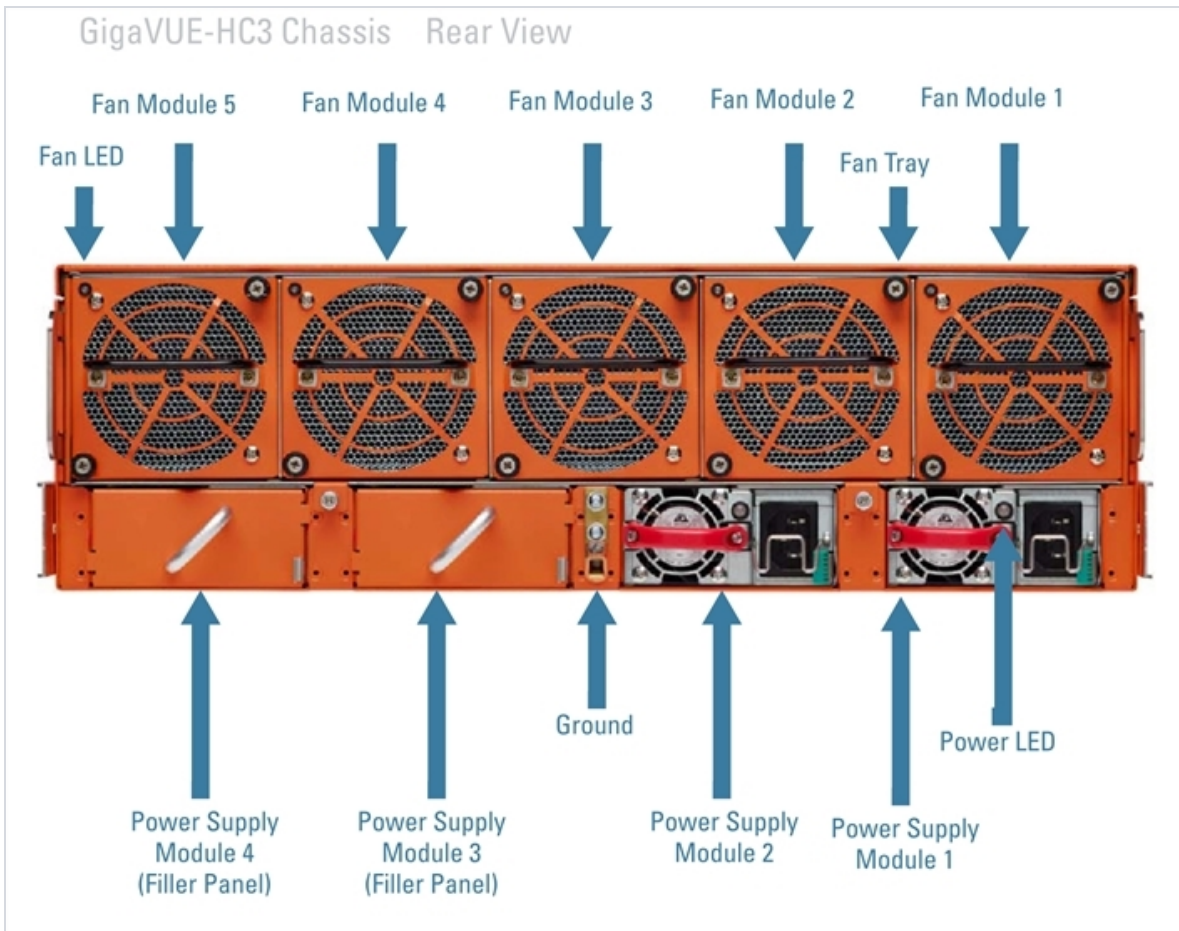

Figure 3: Rear View of the GigaVUE-HC3 Chassis
- Figure 3: Rear View of the GigaVUE-HC3 Chassis on page 11
The fully-assembled GigaVUE-HC3 chassis consists of a 3RU, rack-mountable, 19in-wide chassis with management, network, and tool ports at the front and power connections, fans, and access to the control card at the rear. GigaSMART is available with SMT-HC3-C05 installed in the chassis. on page 8 summarizes the bays on the front, on page 9 summarizes the front view including modules and extension board, and Figure 3: Rear View of the GigaVUE-HC3 Chassis on page 11 summarizes the rear of the GigaVUE-HC3 chassis including fans and power supply modules.